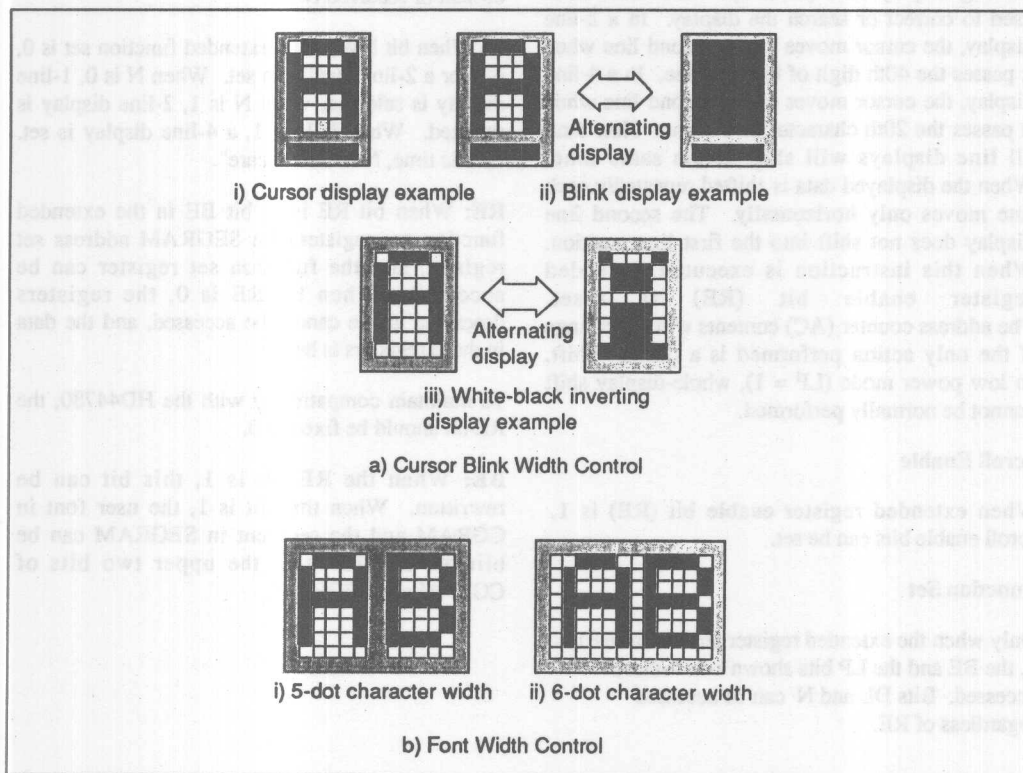

Figure 16 Example of Display Control
**B:** The character indicated by the cursor blinks when B is 1 (figure 16). The blinking is displayed as switching between all blank dots and displayed characters at a speed of 370-ms intervals when  $f_{cp}$  or  $f_{osc}$  is 270 kHz. The cursor and blinking can be set to display simultaneously. (The blinking frequency changes according to  $f_{osc}$  or the reciprocal of  $f_{cp}$ . For example, when  $f_{cp}$  is 300 kHz,  $370 \times 270/300 = 333$  ms.)